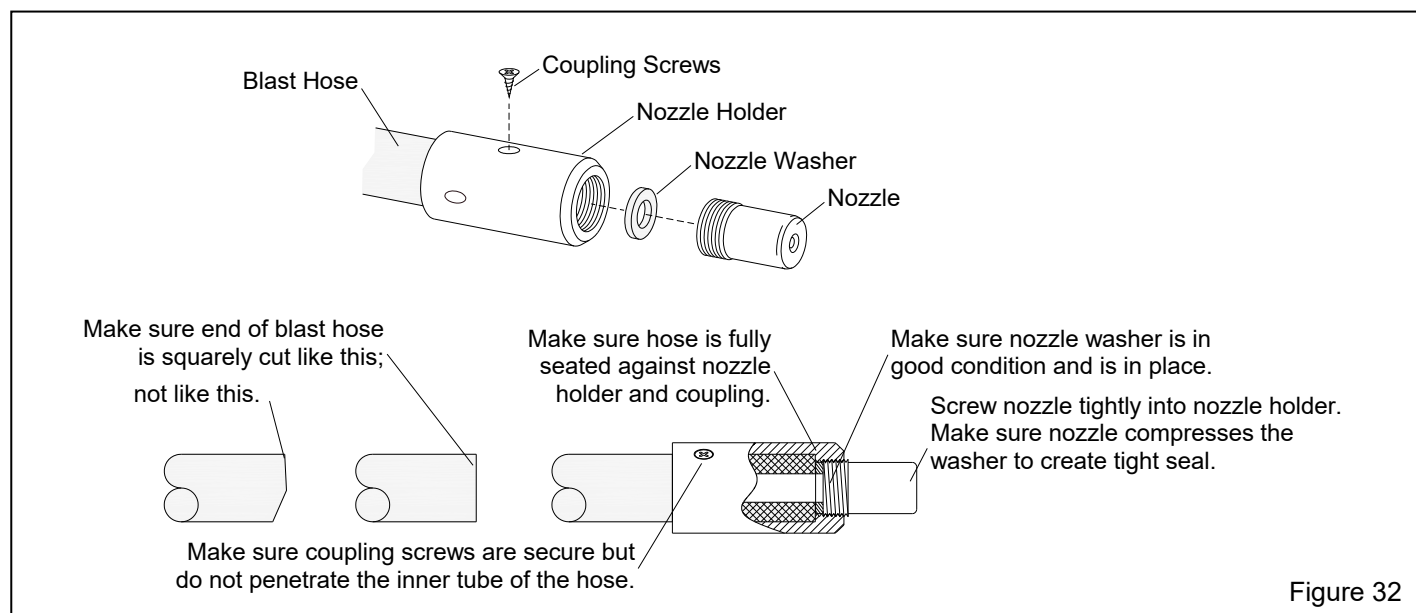

Figure 32
**7.7 Blast Hose and Nozzle – Figure 32**
**7.7.2** When replacing blast hose, make sure the hose is square cut and that it is fully inserted into the nozzle holder and coupling until it sets tightly against the shoulder in the holder and coupling, as shown in Figure 32. Make sure correctly-sized screws are used to secure the nozzle holder and blast-hose coupling. Screws should not penetrate through to the inside of the blast hose.